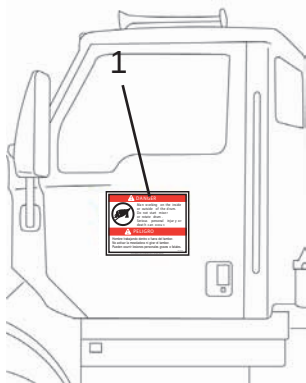

Figure 7
11. Place magnetic "DANGER" signs (Figure 7, Item 1) on both doors: "Man working on drum. Do not start Mixer or rotate drum. Serious personal injury or death can occur."
5. Remove magnetic “DANGER” signs (Figure 7, Item 1) from both doors.